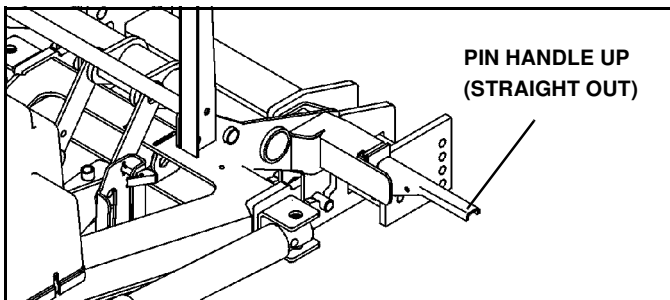

Figure 1-36
6. Rotate pin handles up (straight out) to unlock main pins. (See Figure 1-36)